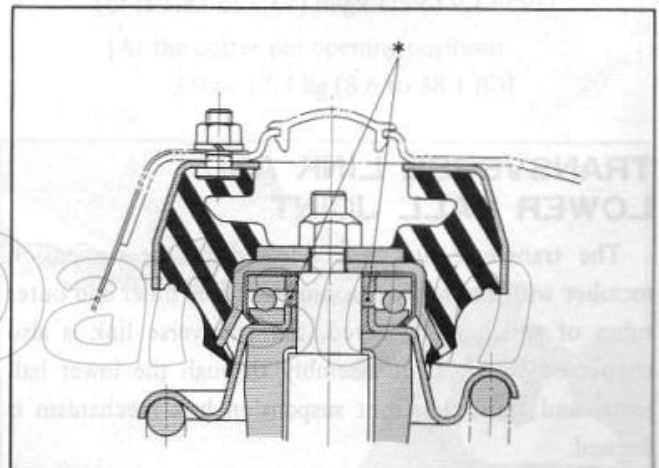

Fig. FA-39 Strut mounting bearing greasing point
b. Install the strut mounting bearing carefully so that it is installed correctly toward the prescribed direction, and be sure to apply multi-purpose grease (MIL G2108 or 10924) to the portion indicated by asterisk (\*) in Figure FA-39.